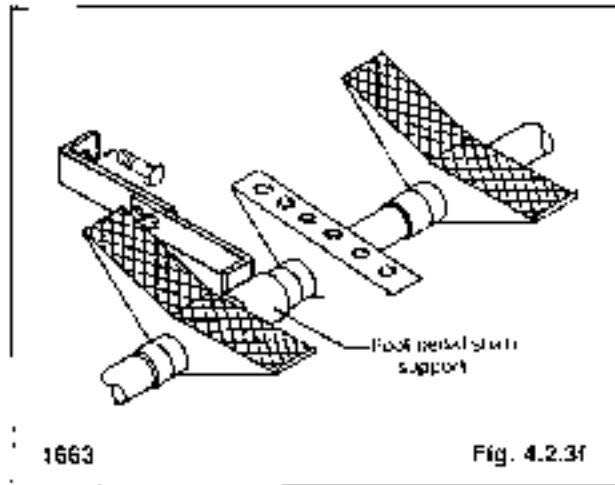

Fig. 4.2.3f
7. Install the foot pedal shaft support (Fig. 4.2.3f).